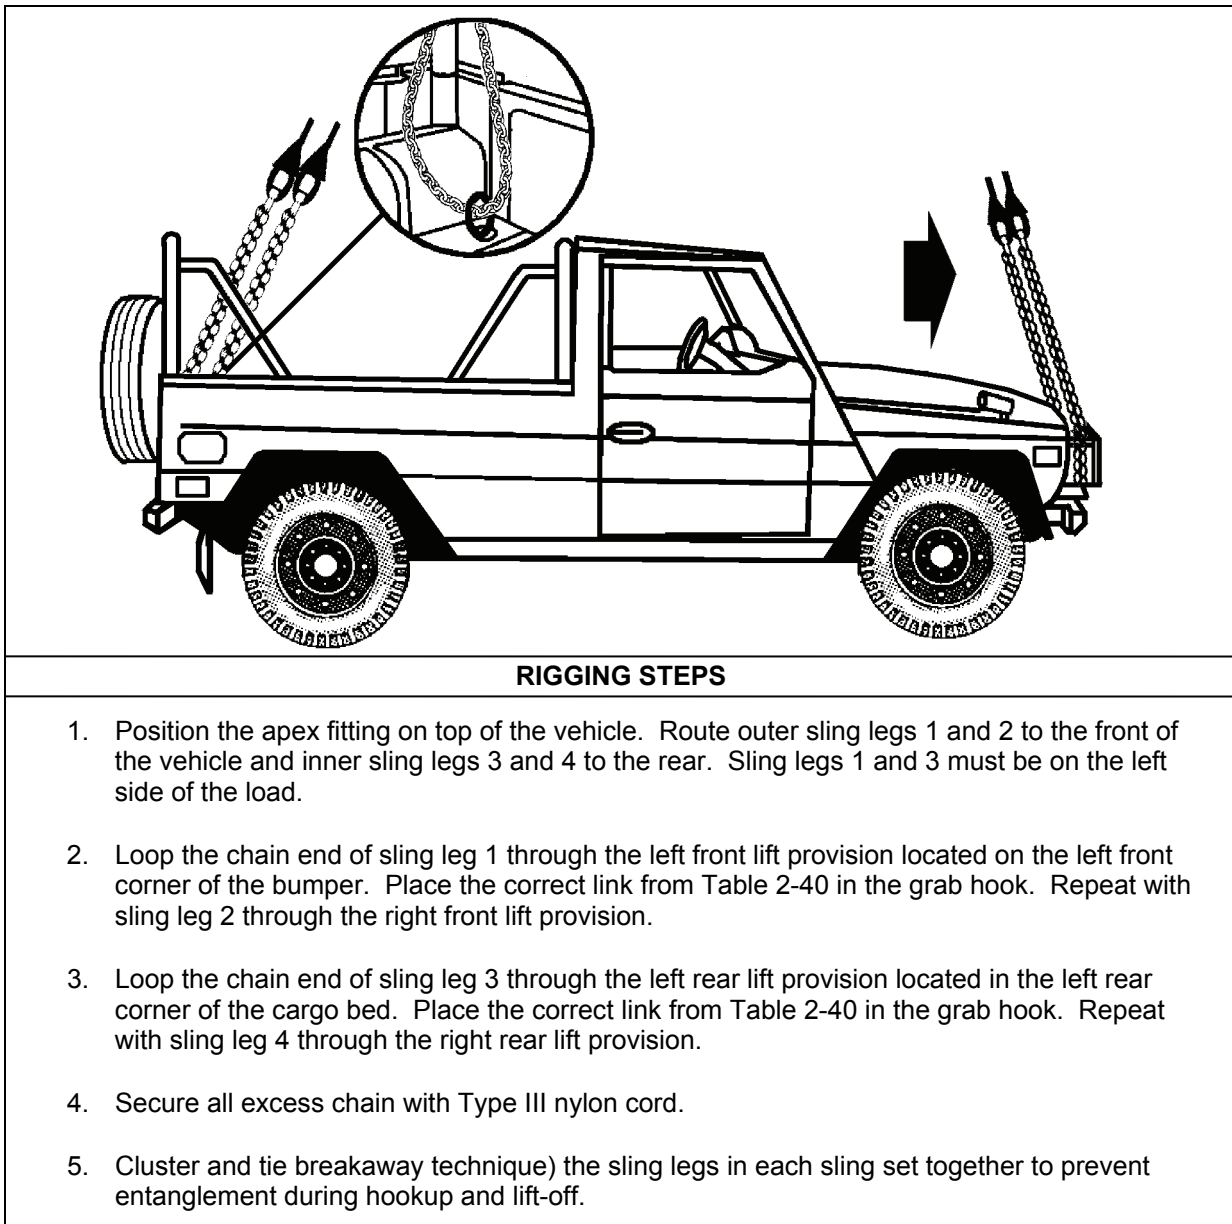

Figure 2-39. Interim Fast Attack Vehicle Truck, Long Wheel Base
- **Rigging.** Rig the load according to the steps in Figure 2-39.